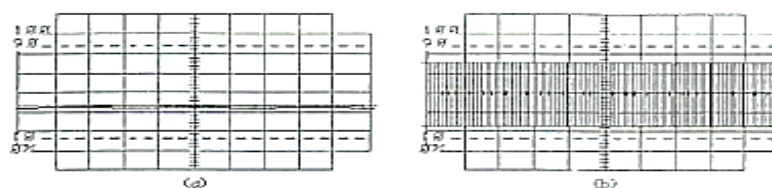

Figure 4-23 (a) and (b).
7. A trace appears at the LSB FILTER output on channel 2 (Figure 4-23 (a)). Slowly increase the VCO-LO's frequency to the MODULATOR by turning the NEGATIVE SUPPLY knob CW until the LSB FILTER'S output amplitude is maximum (Figure 4-23 (b)). This output is an SSB signal.
16. Measure and record the period (T) between peaks of the waveform (Figure 4-23). Each horizontal division is 0.5 μ s.